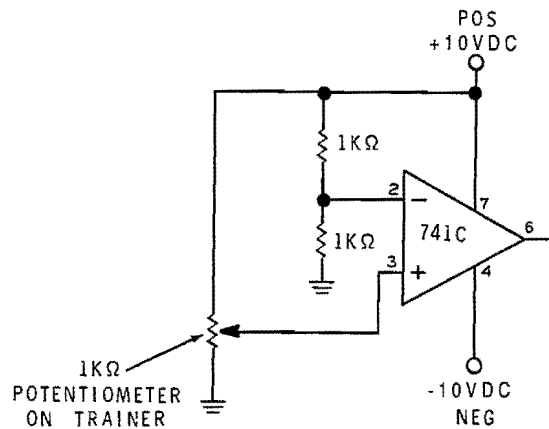

Figure 3-29
13. Construct the circuit shown in Figure 3-29. Turn on the Trainer.